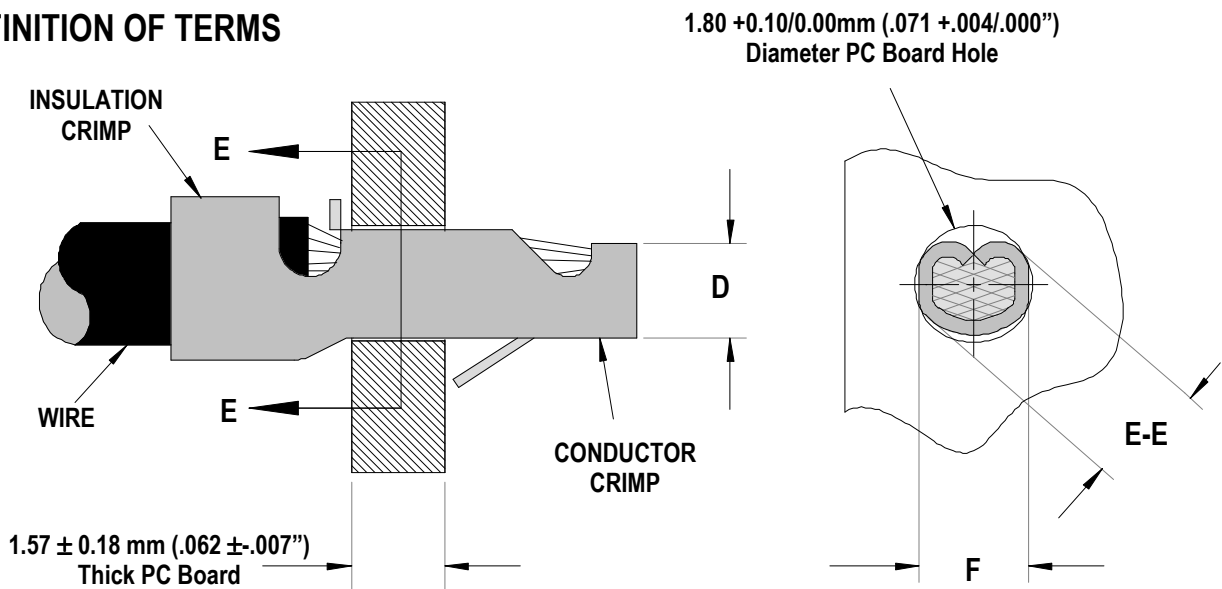

Figure 1
After crimping, the conductor profiles should measure the following (See Figure 1).
1. The Conductor crimp (D dimension on Figure 1) should be set at the maximum height to contain all wire strands, meet minimum pull, and fit into the PCB Hole. Shimming may be required of the conductor punch to optimize this for different wire types.